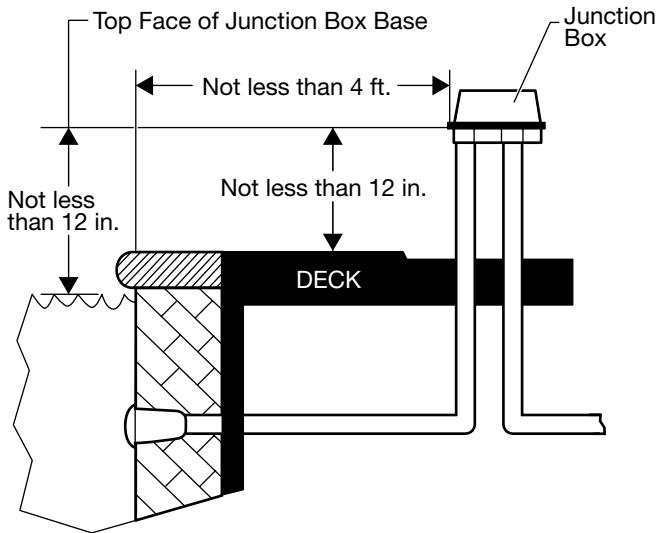

FIG. 1. Junction Box Transformer Placement
1. Determine the appropriate location for the junction box transformer. See FIG. 1 for placement information.